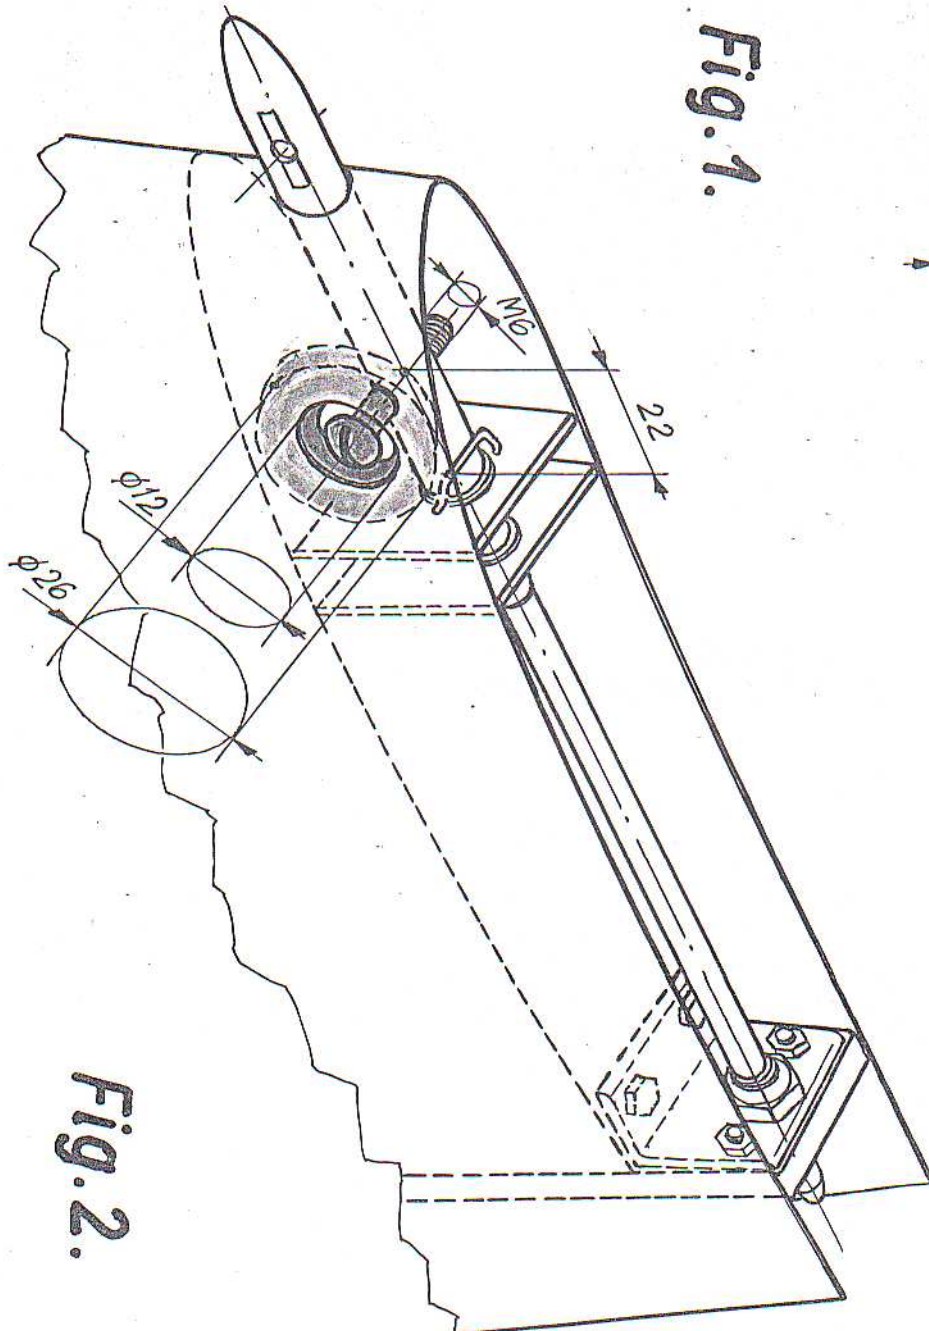

Fig.2.
It is screwed into the bolt pivot, as shown on the sketch of Fig. 2 so that its head touches the external lap.
- 5.1. On the pivot of connecting bolt (44-40-00) the opening of $\varnothing 4,8$ (for M6 thread) should be traced and drilled through on the distance of 22 mm from the stop surface (in respect to the front nest sleeve face - see Fig.2). The opening axis should be parallel to the cuts for the locking spring. Smooth the opening edges.